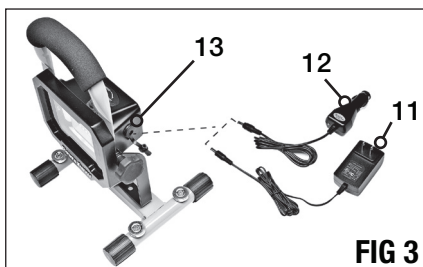

FIG 3
CHARGING/RECHARGING THE WORK LIGHT (FIG 3)
2. Connect the 120V AC power charger and the work light as shown in FIG 3.
2. Connect the 12V DC charger and the work light as shown in FIG 3.